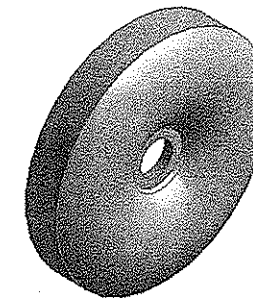

Figure 5-10 The base feature created
6. Choose the **Generate** tool from the **Features** toolbar; the base feature is created by revolving the sketch about the X axis by 360 degrees, refer to Figure 5-10.
In Figure 5-10, the display of planes has been turned off for better visibility of the model. You can turn off the display of the planes by choosing the **Display Plane** tool from the **Graphics** toolbar.